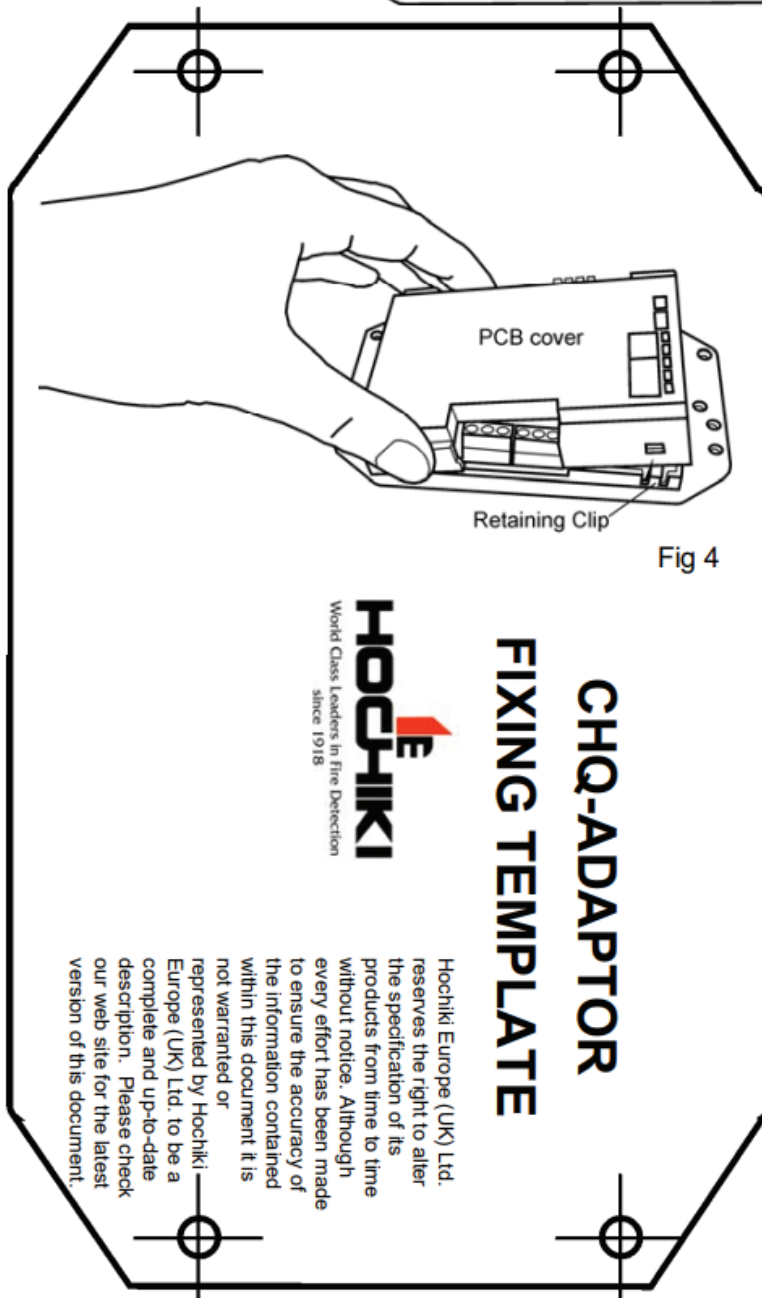

Fig 4
- Ensure the plastic lugs on the inside edge of the PCB cover (opposite end to the holes for the retaining clips) are engaged in their respective holes. The retaining clips on the adaptor will now be lined up with their corresponding holes on the PCB cover (see Fig 4 overleaf).